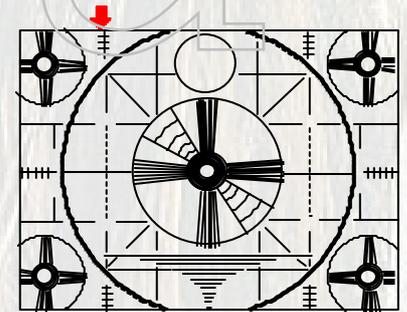

Fig.1-5 PAL monoscope
2. Use the [VOLUME +/-] key of the jig remote control and adjust so that the numbers of vertical scales in the upper and the lower parts of screen satisfy the specifications. (Fig. 1-5.)